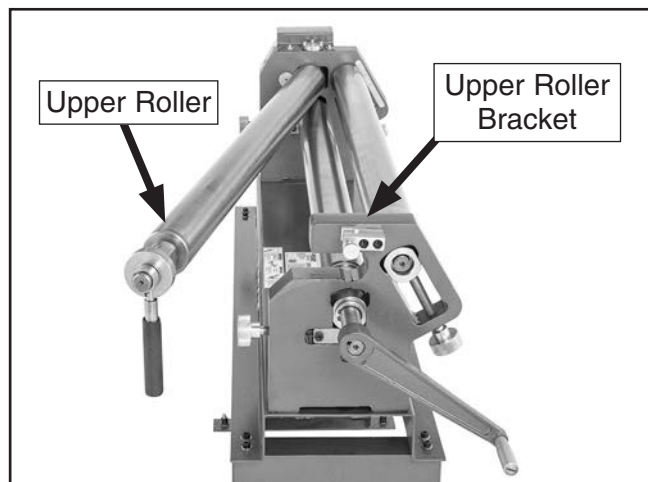

Figure 56. Upper roller released (workpiece already removed from roller for photo clarity).
20. Slide upper roller out from upper roller bracket (see **Figure 56**), remove workpiece from upper roller, then slide upper roller back into bracket.